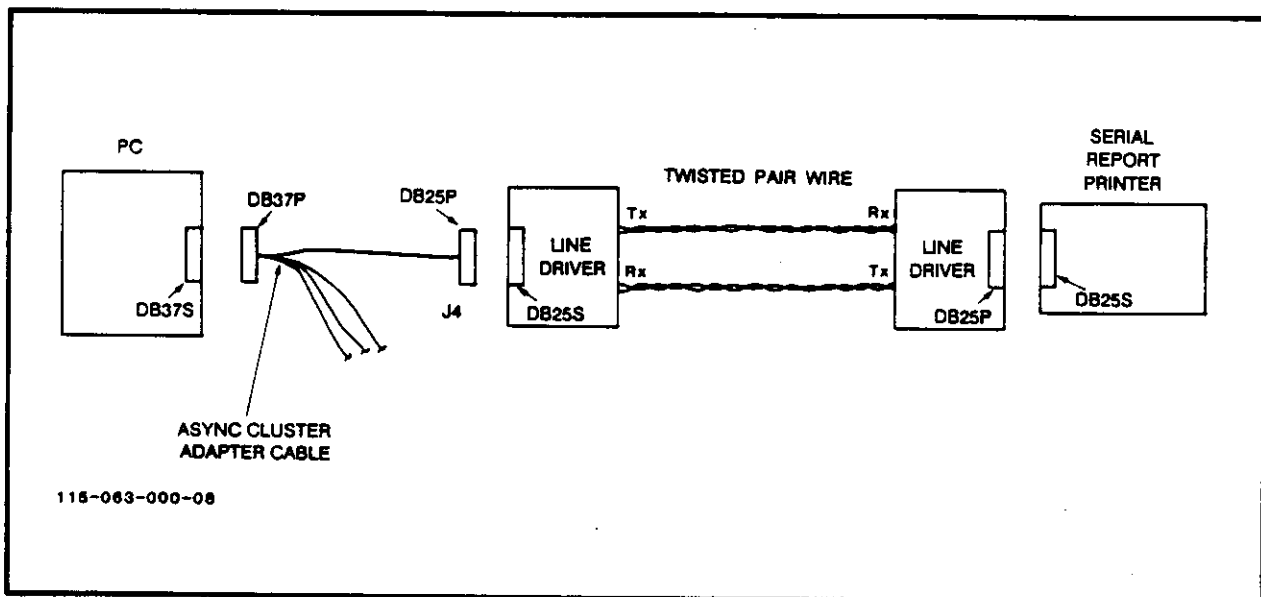

Figure 3-8. Remote Report Printer Connection
6.02 If you have a remote cable kit, refer to Figure 3-8 and use the following procedures.